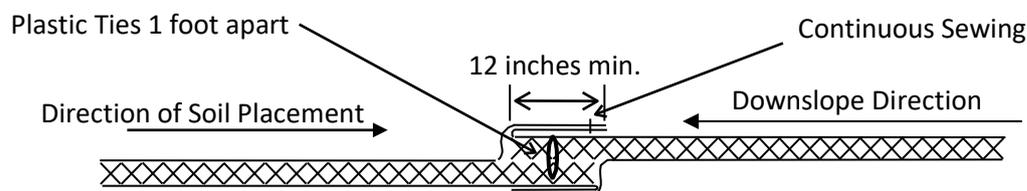

Figure 2: Overlap Along Roll Width
- Adjoining geocomposite rolls (end to end) along the roll width shall be shingled down in the direction of the slope, with the geonet portion of the top geocomposite overlapping the geonet portion of the bottom geocomposite a minimum of 12 inches or as recommended by the Engineer across the roll width, see Figure 2. Geonet shall be tied every 12 inches across the roll width and every 6 inches in the anchor trench or as specified by the CQA Engineer or the Design Engineer.